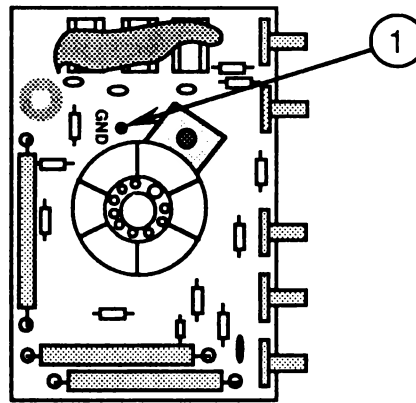

FIGURE 34
16. Reconnect the gray CRT ground wire to the CRT board (Figure 34, #1).